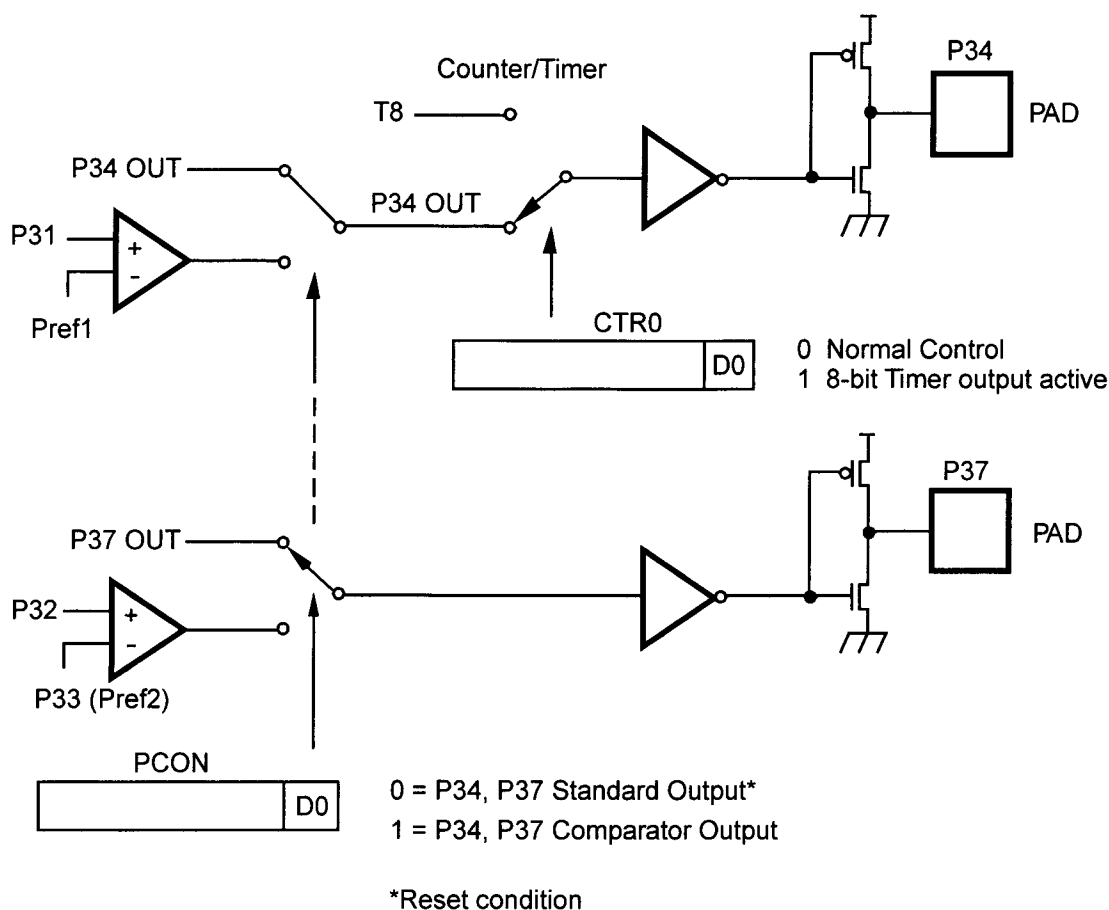
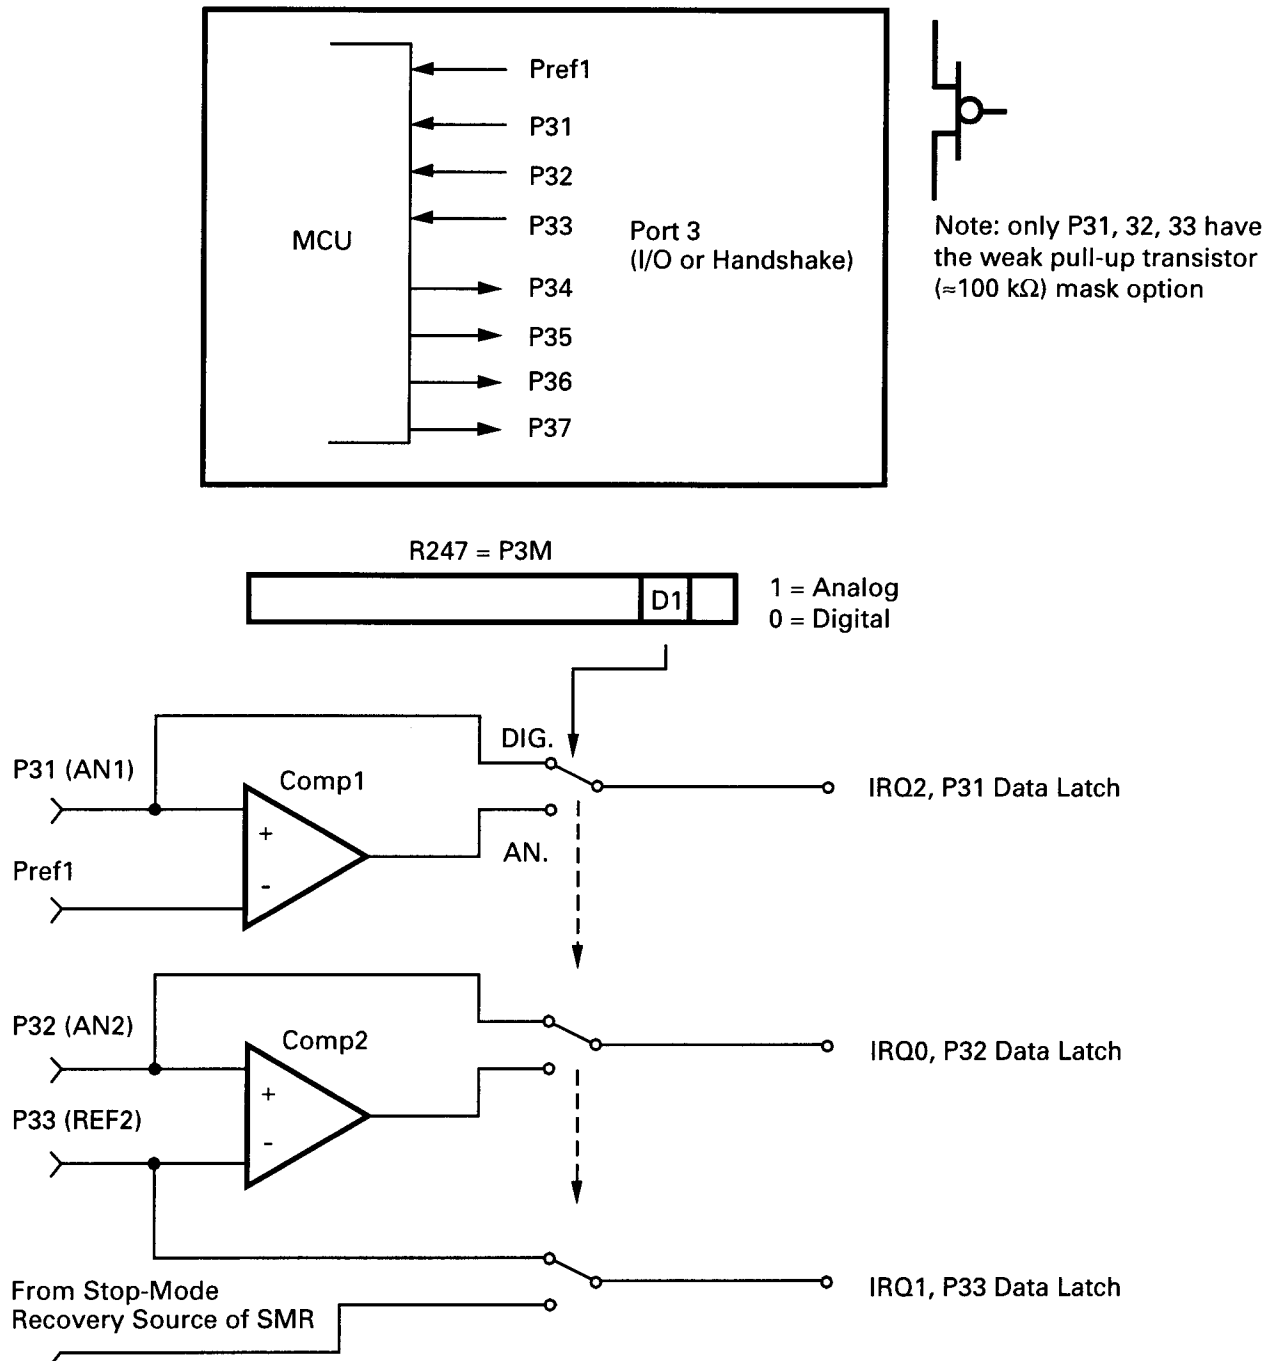

Figure 12. Port 3 Configuration
Figure 13. Port 3 Configuration
**Comparator Inputs.** In Analog Mode, Port 3 (P31 and P32) have a comparator front end (Figure 12). The comparator reference is supplied to P33 and Pref1. In this mode, the P33 internal data latch and its corresponding IRQ1 is diverted to the SMR Sources (excluding P31, P32, and P33) as illustrated in Figure 37. In digital mode, P33 is used as D3 of the Port 3 input register, thereby generating IRQ1 as illustrated in Figure 13.